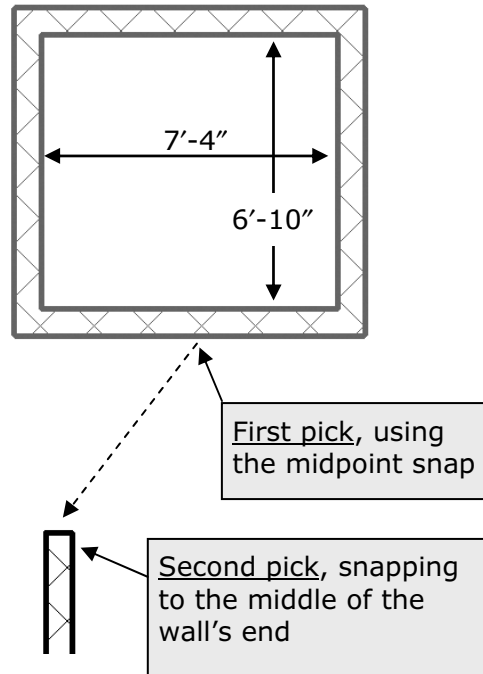

Figure 3-3.4 Move tool
14. Snap to the *Midpoint* of the shaft as your first point, and then snap to the *Middle Endpoint* of your temporary wall (Figure 3-3.4). You should zoom in to verify your snaps.